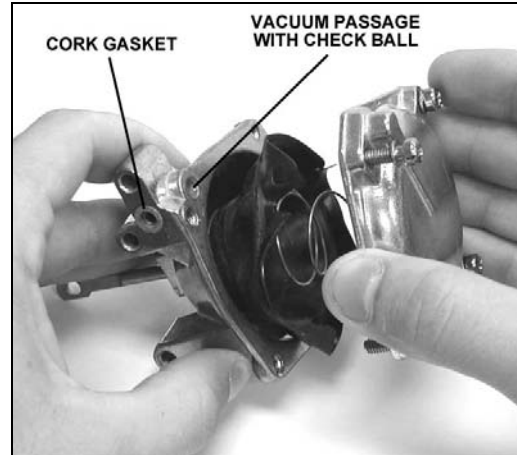

Figure 16
- Gently remove the cover. Take care as not to tear the diaphragm or loose the check ball (Figure 16).